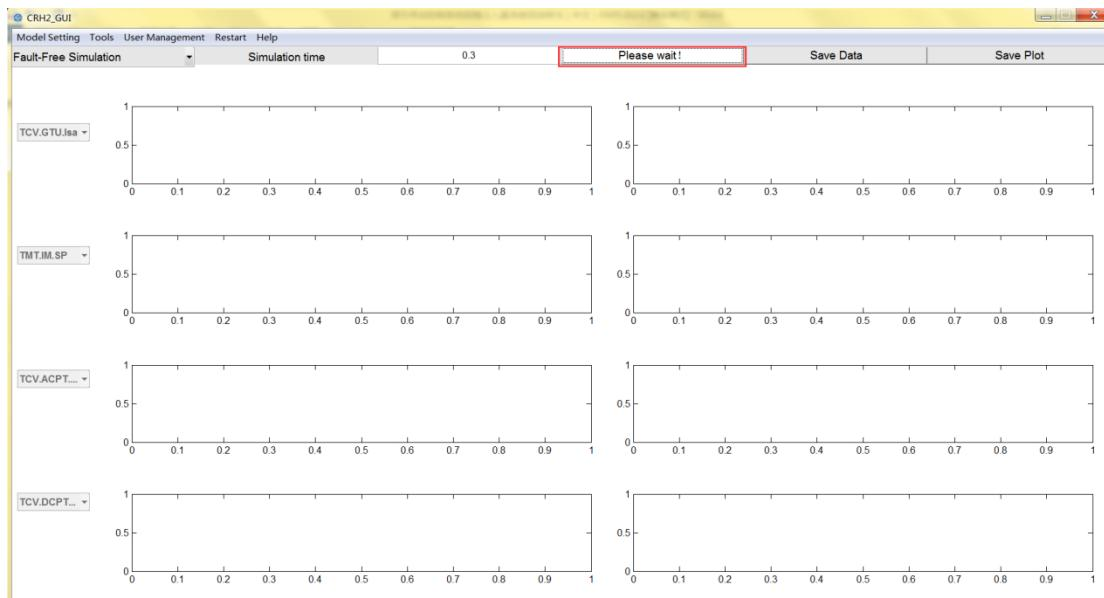

Fig. 46 In the simulation
③Click the 'Start Simulation' button to start the simulation, as shown in Fig. 46.